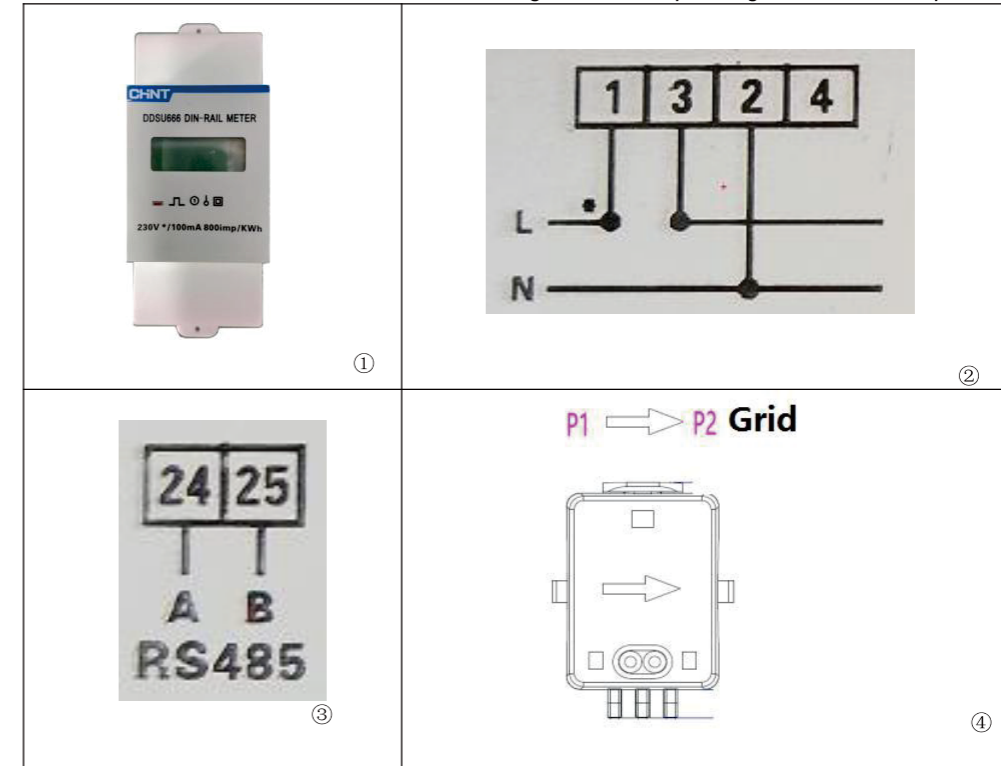

Figure 18 : Electric meter
METER crystal slot interface is used for meter communication, and the meter is shown in Figure18. ①. PIN1 and PIN2 correspond to 24 and 25, as shown in Figure18. ③. The connection mode is shown in Figure18.②, and 1 and 2 of the electric meter are connected to the inverter's L and N respectively, 3 and 4 of the electric meter are connected to the grid's L and N respectively. The connection and use of smart meters not only require electrical connections, but also the input of communication addresses on the screen(The specific operations on the screen please refer to 6.3.1>5.Zero Export to Grid>Meter Address).